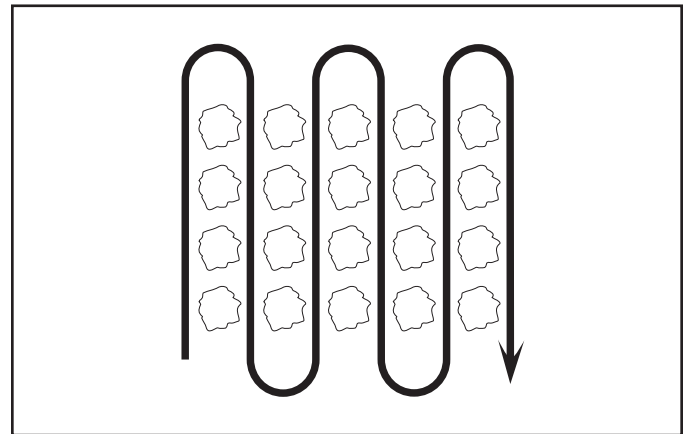

Fig. 11
- Cultivate up and down the rows at a speed which will allow tines to uproot weeds and leave the ground in rough condition, promoting no further growth of weeds and grass (See Fig. 11).